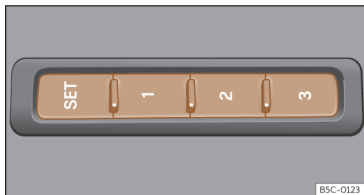

Fig. 89 On the outer side of the driver seat: memory buttons.
- Press **SET** for longer than 1 second >>> **Fig. 89**.